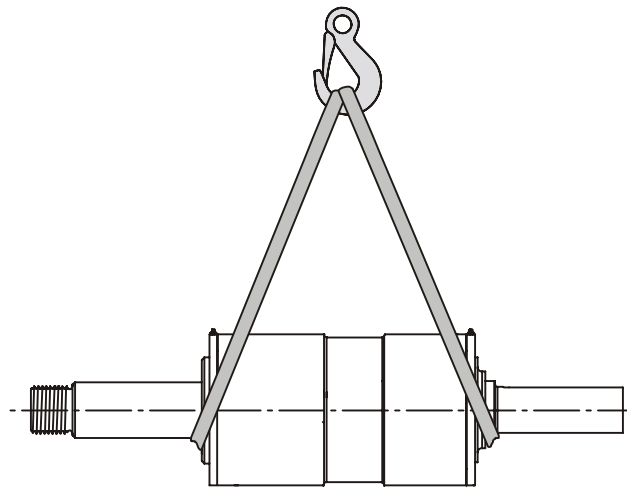

Figure 9.5.4-1 Lifting the bearing cylinder
- h) Lift bearing cylinder assembly, as shown in Figure 9.5.4-1, out of the bearing frame.
- b) Lift the bearing cylinder assembly, as shown in Figure 9.5.4-1, and lower it onto bearing frame (P14).